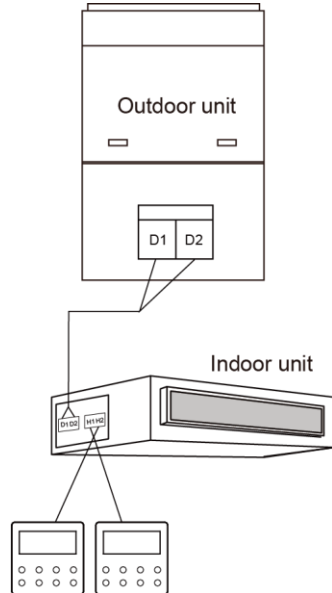

Fig. 3.7 Two wired controllers control one indoor unit
- (1) When one wired controller controls multiple indoor units simultaneously, the wired controller can connect to any one indoor unit, but the connected indoor unit must be the same series indoor unit. The total quantity of indoor unit controlled by wired controller can't exceed 16 sets, and the connected indoor unit must be within the same indoor unit's network. Wire controller must set quantity of group control indoor units. Please refer to 3.2.3 Parameters Setting.
- (2) When two wired controllers control one indoor unit, the addresses of those two wired controllers should be different. Please refer to 3.2.3 parameter setting.
- (3) When two wired controllers control multiple indoor units, wired controller can be connected to any one indoor unit, while the connected indoor unit should be the same series indoor unit. The addresses of those two wired controllers should be different. Please refer to 3.2.3 parameter setting. The total quantity of indoor unit controlled by wired controller can't be more than 16 sets and all connected indoor units must be within the same indoor unit network. Wire controller must set quantity of group control indoor units. Please refer to 3.2.3 Parameters Setting.
- (4) When one (or two) wired controller(s) control(s) multiple indoor units at the same time, the controlled indoor unit's setting should be the same.
- (5) Wiring of wired controller and indoor unit network must be according to one of the four wiring methods as shown in fig 3.6-3.9. As for the connection method shown in fig 3.7 and 3.9, there should be only one master wired controller (address is 01) and one slave wired controller (address 02). The quantity of wired controller can't exceed two.
- ① Common Multi VRF Units;
- ② Fresh Air Units;
- ③ Double-heat Sources Units;
- ④ Combined Units;